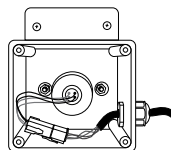

FIGURE 2
2. Once the UV bulb has cooled off remove the ClearRay System enclosure cover (9) and gasket (8) by removing the four screws (10). This will expose the UV bulb and connections, Figure 2.